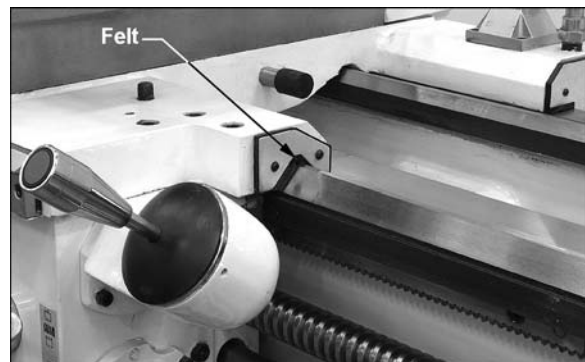

Figure 14 – Anti-dust felt
10. **Saddle** – The anti-dust felt on both ends of the v-guide ways (Figure 14) should be cleaned weekly with kerosene. If the felt becomes damaged, replace it.